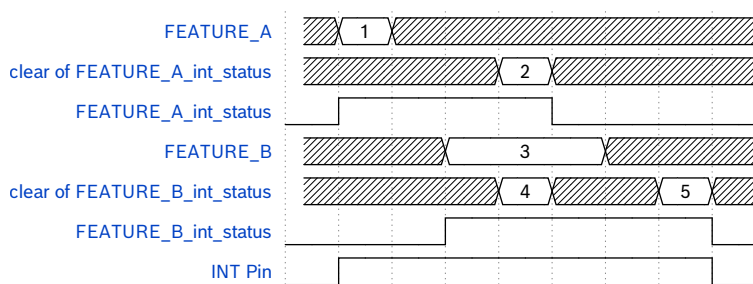

Figure 17: Interrupt output in latch mode
**Latch Mode** Figure 17 shows the timing diagram when the latch mode is configured. FEATURE\_A and FEATURE\_B can represent any interrupt source, and are mapped to the same INT pin target. Detailed explanations of the timing diagram are provided in below: